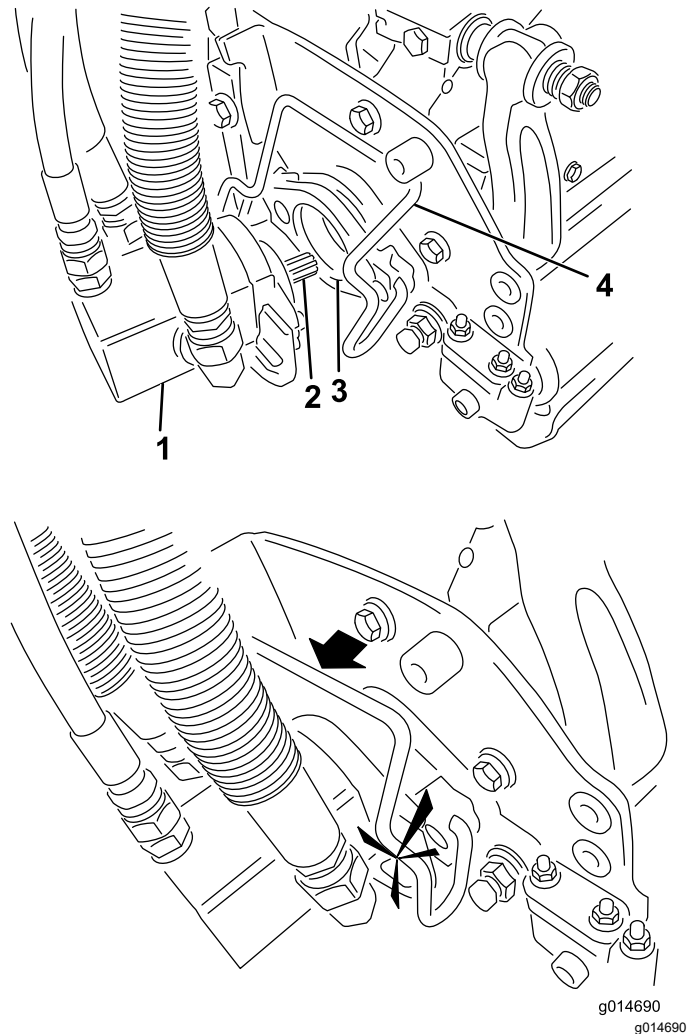

Figure 5
4. Insert the motor into the left side of the spiker unit (as viewed from the operator's position), and pull the motor retaining bar on the spiker unit toward the motor until you hear a click from both sides of the motor (Figure 5).